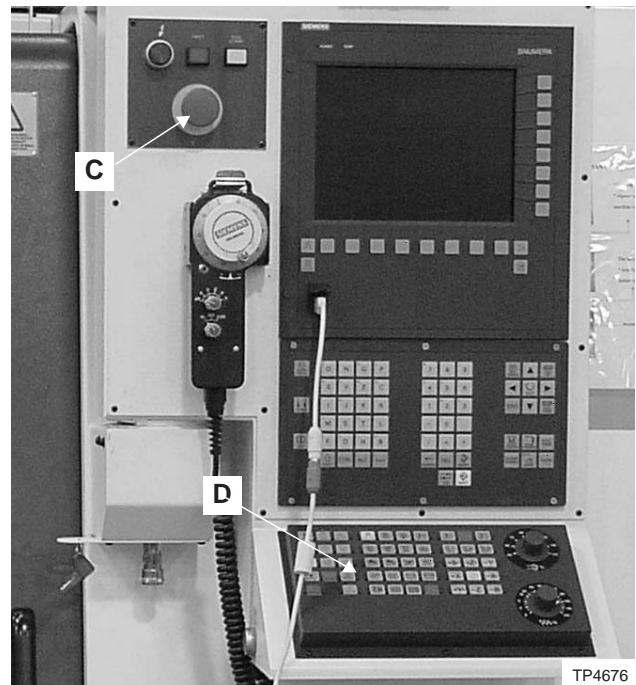

Figure 1.3 - Siemens Operator Control Panel
7. Pull Emergency Stop push button "C", Figure 1.3, out and release it to allow the machine to power up.